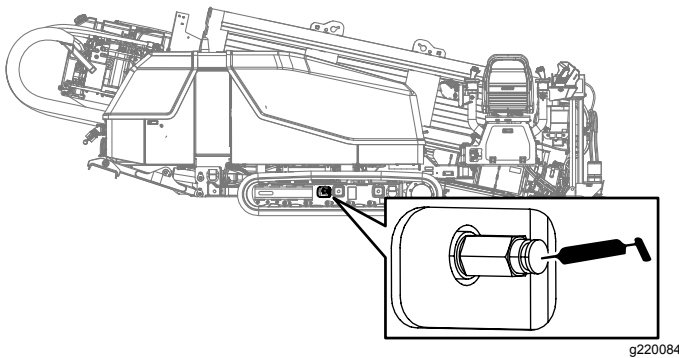

Figure 103
3. Remove dirt and debris found around the track-tension grease valve (Figure 103).
5. Apply grease to the fitting until the tension reaches 22,063 kPa (3,200 psi) as shown in Figure 103.
5. Turn the track-tension grease valve counterclockwise **no more than 1 revolution** (Figure 103).